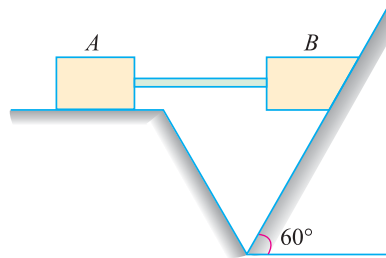

Fig. 8.15.
**Example 8.10.** Two blocks A and B, connected by a horizontal rod and frictionless hinges are supported on two rough planes as shown in Fig. 8.15.